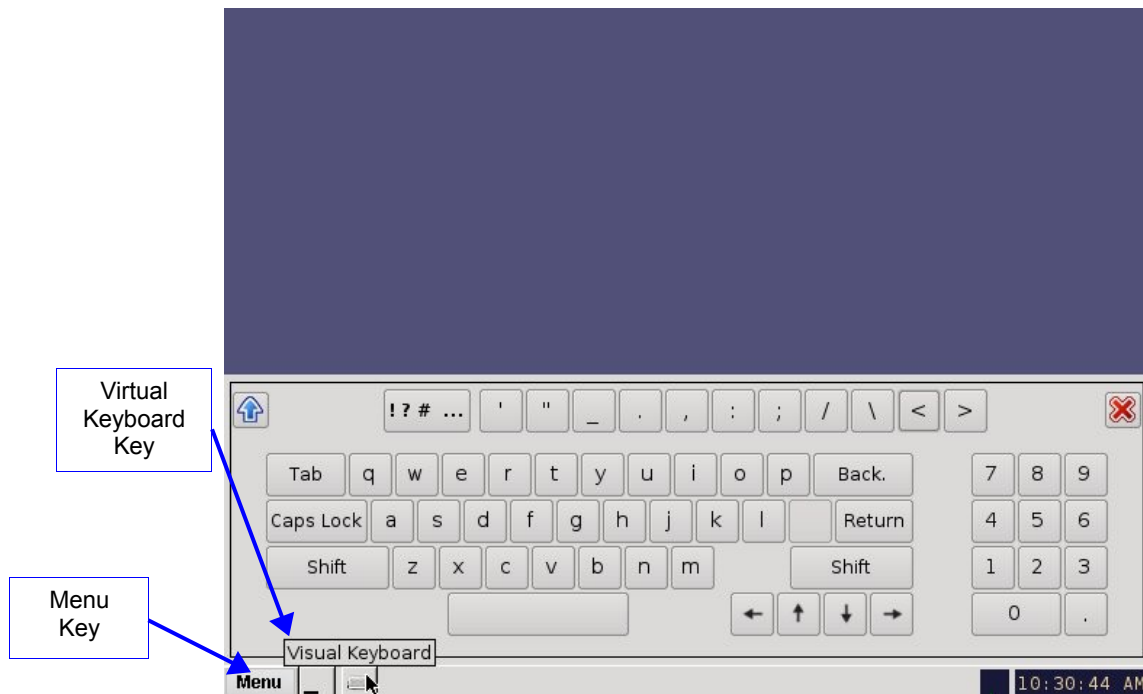

Figure 13: Virtual Keyboard
- The keyboard will appear on the GUI, as illustrated in Figure 13 below.